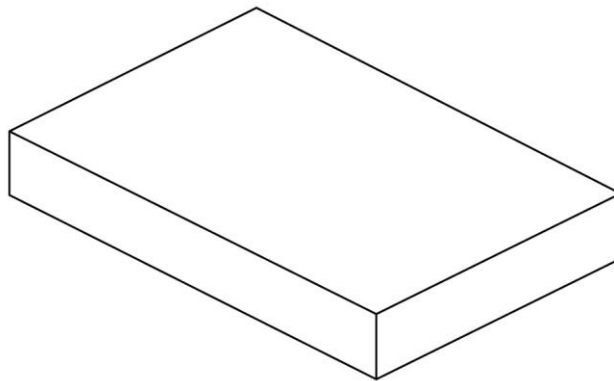

Fig. 4
- 4 Shown in Figure 4 below is a drawing of a block of a manufactured board.